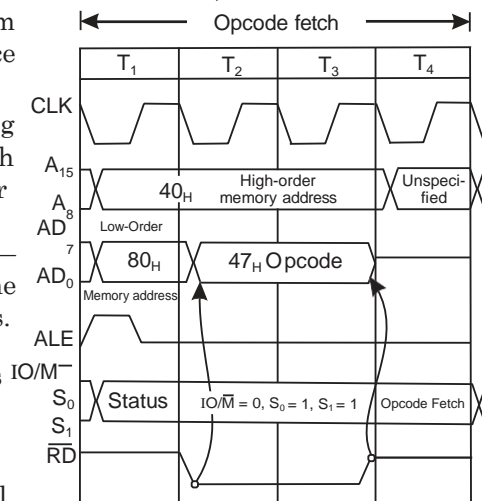

Fig. 3.1: 8085 timing for execution of the instruction (MOV B, A)
6. In T₄, CPU decodes the instruction, places FF_H (accumulator content) in the temporary register and then transfers it to register B. Figure 3.1 shows the execution of the above. It consists of 4T states.